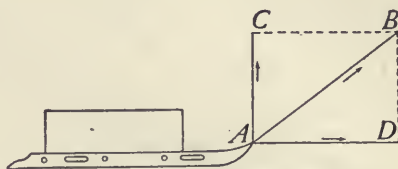

FIG. 62.— AD is the effective component.
(3) RESOLUTION OF FORCES
82. Resolution of Forces.—We have been studying the effect of forces in producing motion and the results of combining forces in *many* ways; in the *same line*, in *parallel lines*, and in *diverging lines*. Another case of much interest and importance is *the determination of the effectiveness of a force in a direction different from the one in which it acts*. This case which is called *resolution of forces* is frequently used. To illustrate: one needs but to recall that a sailor uses this principle in a practical way whenever he sails his boat in any other direction than the one in which the wind is blowing, *e.g.*, when the wind is blowing, say from the north, the boat may be driven east, west, or to any point south between the east and west and it is even possible to beat back against the wind toward the northeast or northwest. Take a sled drawn by a short rope with the force applied along the line AB (see Fig. 62); part of this force tends to lift the front of the sled as AC and a part to draw it forward as AD . Hence not all of the force applied along